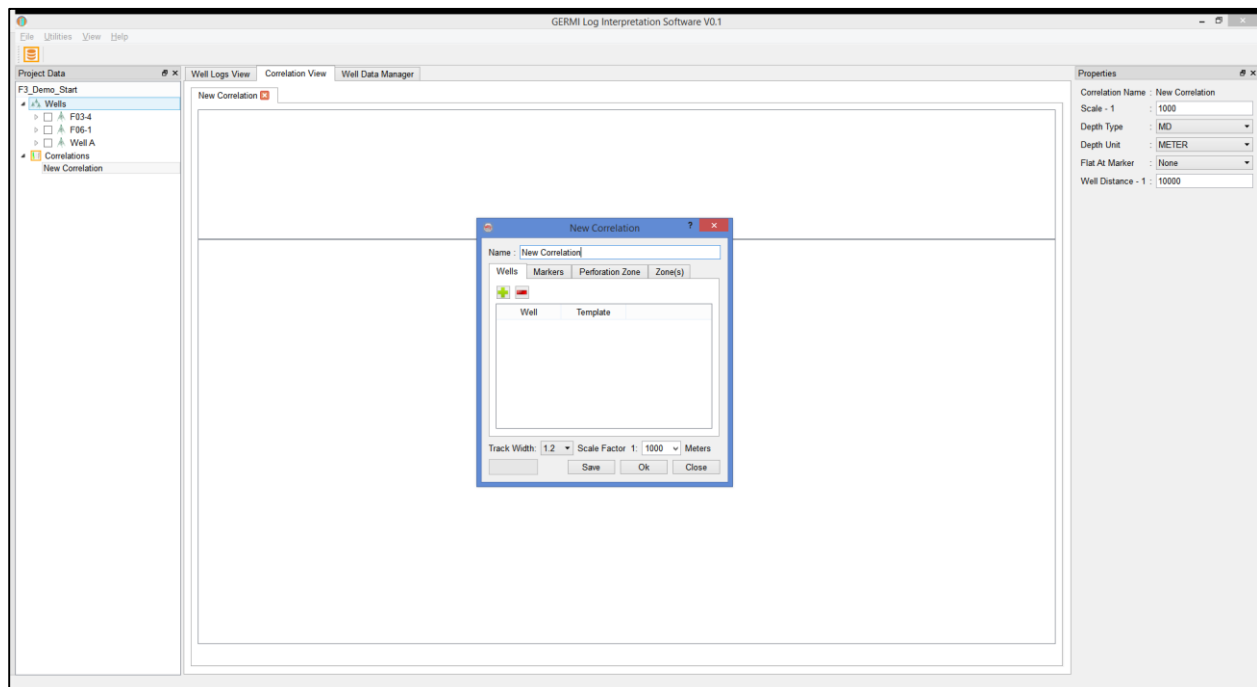

Figure 5.3 Well Correlation Display template window.
Step 2: It will open the Well Correlation Display template window as shown in figure 5.3.